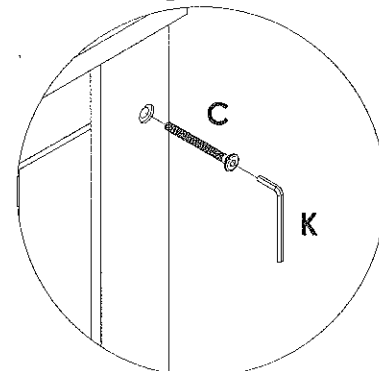

Figure 6
2. Insert **Bolts (C)** into both **Side Rails**, tighten it up by using an **Allen Key (J)**.
3. Insert **Bolts (A)** into holes on **Headboards** as seen on **Figure 6**, tighten it up by using an **Allen Key (J)**.